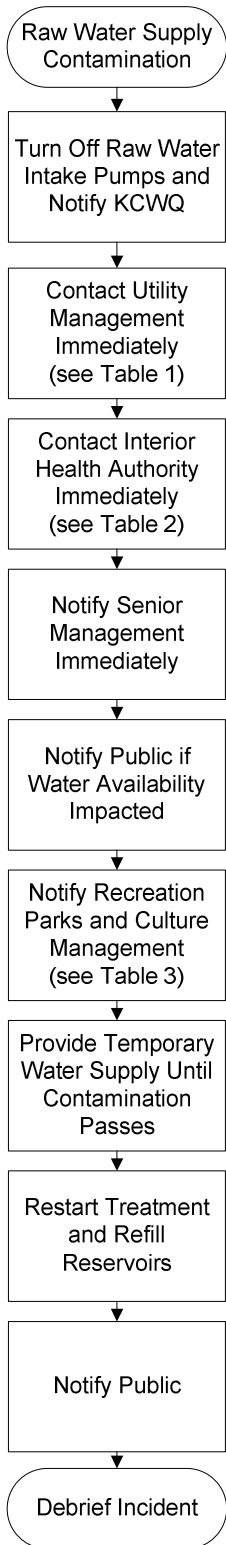

FIGURE 3. RAW WATER SUPPLY CONTAMINATION
- Water supply is chemically or physically contaminated due to a spill upstream of the water intake. (see Figure 3)